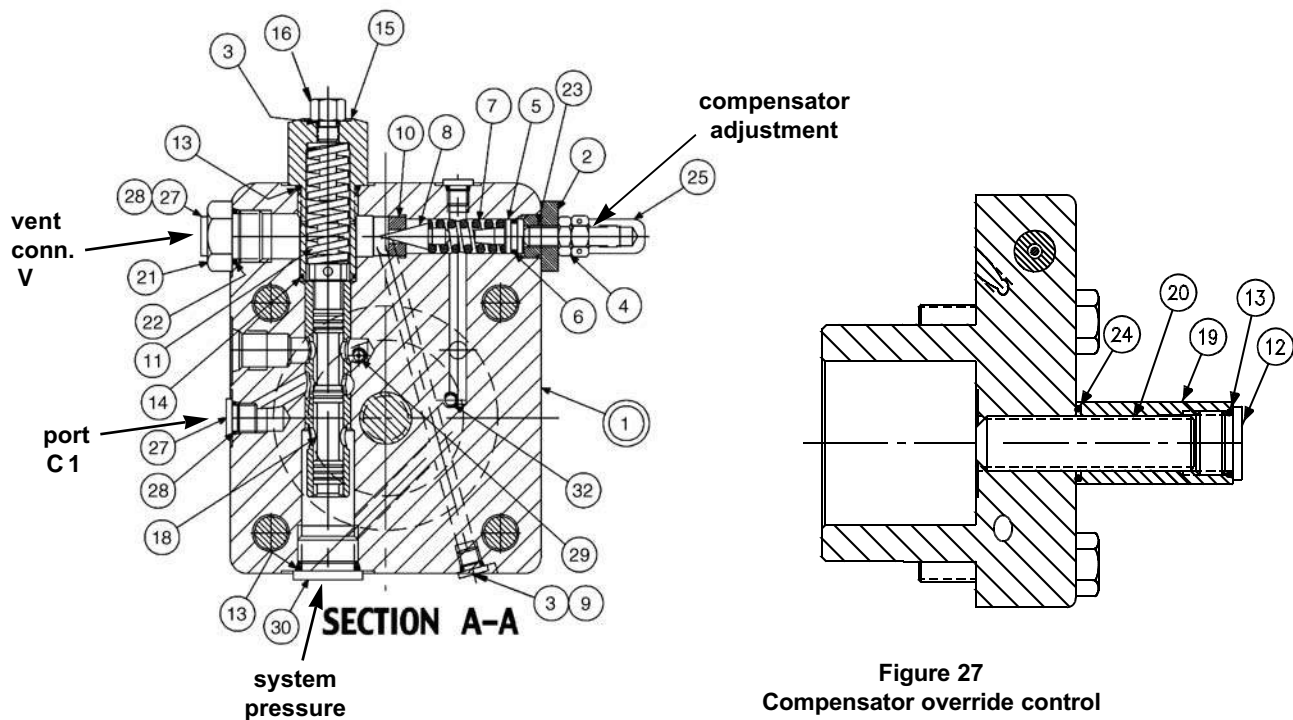

Figure 27
PARTS LIST FOR FIGURE 27
1. See Figure 27. Remove tube line to cap.
2. Remove maximum volume stop assembly (items 12, 13, 19, 20, 24).
4. Remove plug (15) and attached parts. Remove spring (11) and spool (18).
5. Remove adjusting plug (2) and attached parts. Remove seal piston (5). Note: a 10-24 screw may be attached to assist in pulling the piston. Remove spring (7) and cone (8).
6. Do not remove sleeve in body (1). Sleeve is pressed into cap and finished to size. If sleeve, snout or cap is worn, replace the cap-sleeve assembly (1).
7. Examine seat (10) for wear. Do not remove unless damaged.